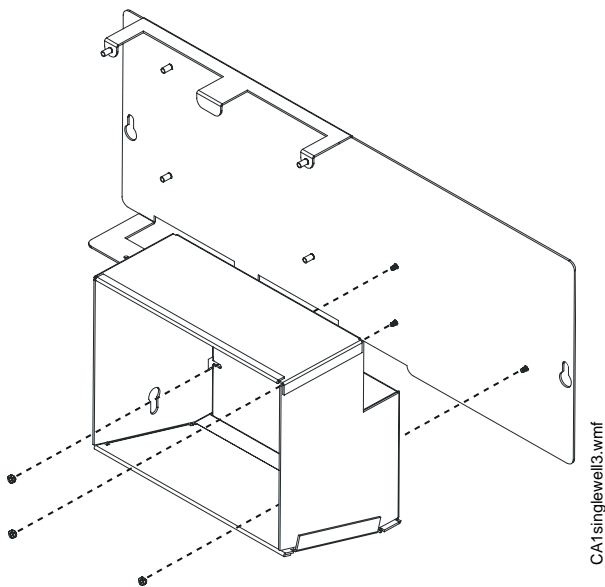

Figure 2 Attaching CMIC-1 onto CA-1
2. Attach the single-well to chassis CA-1 with the three nuts (P/N 36045) as shown in Figure 2.